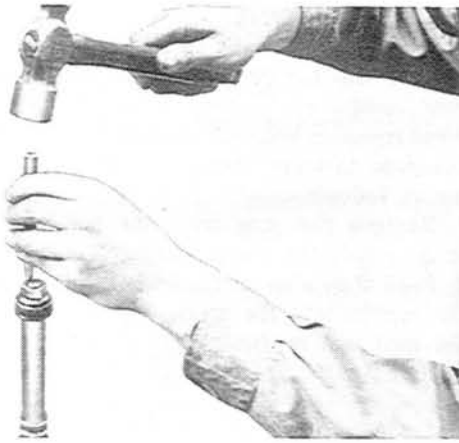

Fig. 13-17 Applying of punch
4. Punch two positions of the threads between the piston nut and the piston rod with a punch to prevent loosening of the piston nut as shown in Fig. 13-17.